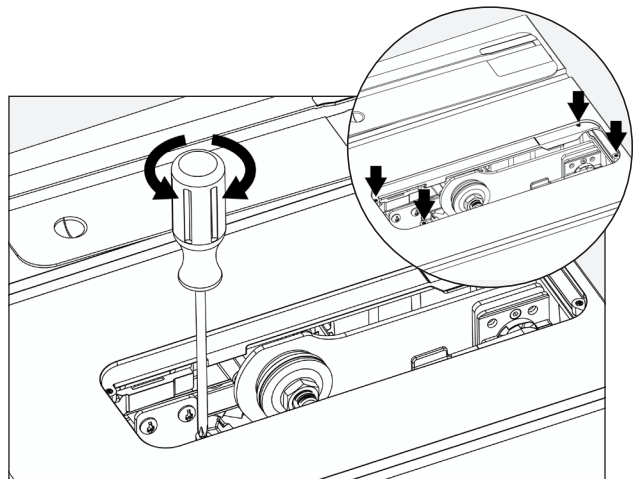

FIGURE 16
If adjustment is needed, remove the throat plate and adjust the (4) Phillips set screws (Fig. 16) up or down as needed. Replace throat plate and recheck. Repeat this process as needed until the throat plate is level.